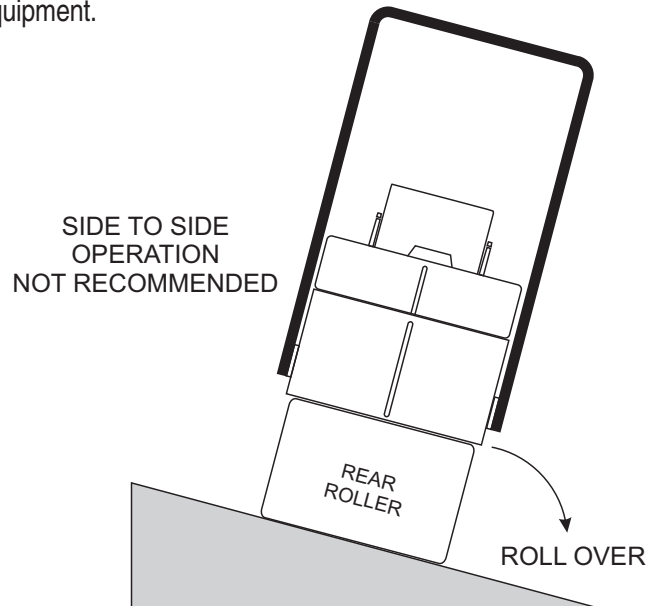

Figure 3. Tipping (Rollover)
**NEVER!** operate the roller on side slopes (Figure 3). The possibility exist that the roller could tip over (roll over), thus causing bodily harm even death and serious damage to the equipment.